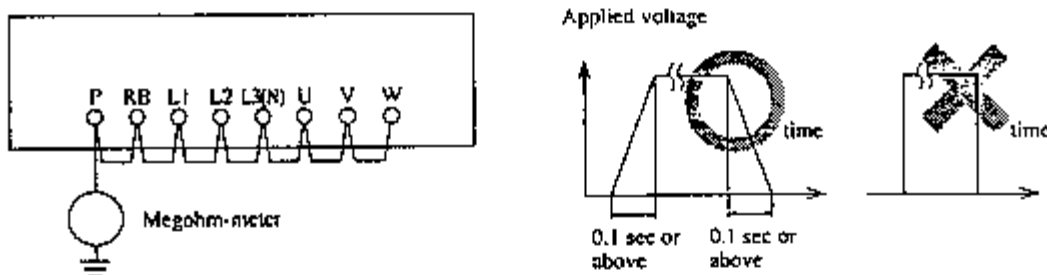

Figure 7.4 Insulation Resistance Tests and Withstand Voltage Tests
Make these measurements and tests by short-circuiting the terminals as shown in Figure 7.4, and by following the conditions described.
- Do not conduct withstand voltage tests for terminals other than those indicated in Figure 7-4.